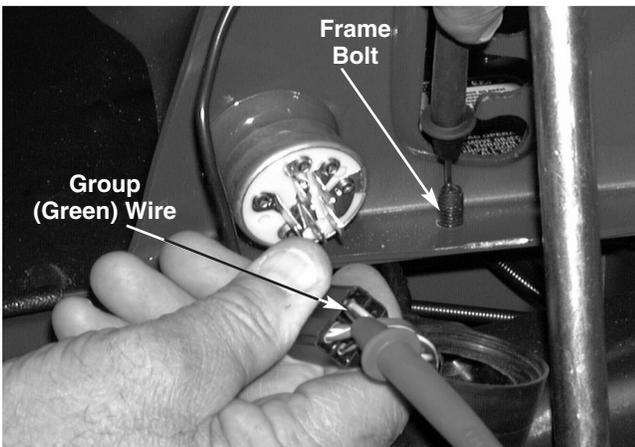

FIGURE 6.
- 11). Place one probe on any frame bolt. Place the second probe on the ground (green) wire of the ignition switch connector. –There will be **CONTINUITY**. See figure 6.